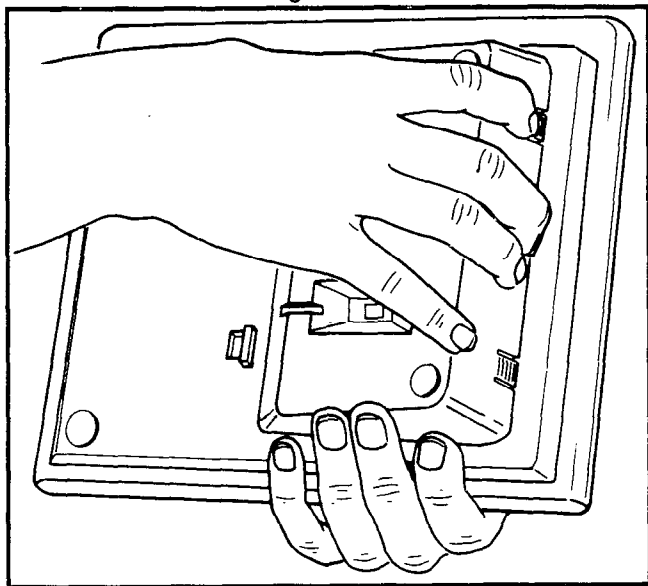

FIGURE 26—REMOVING EKT BASE
07.13 Locking tabs secure the EKT's base. The direction in which the base is attached to the EKT determines whether it will be used as a desk unit or wall unit (it is factory-configured as a desk unit). Disengage the locking tabs by pushing downward on the base (Figure 26), and then rotate the base 180° and insert it into the lower four locking tabs.